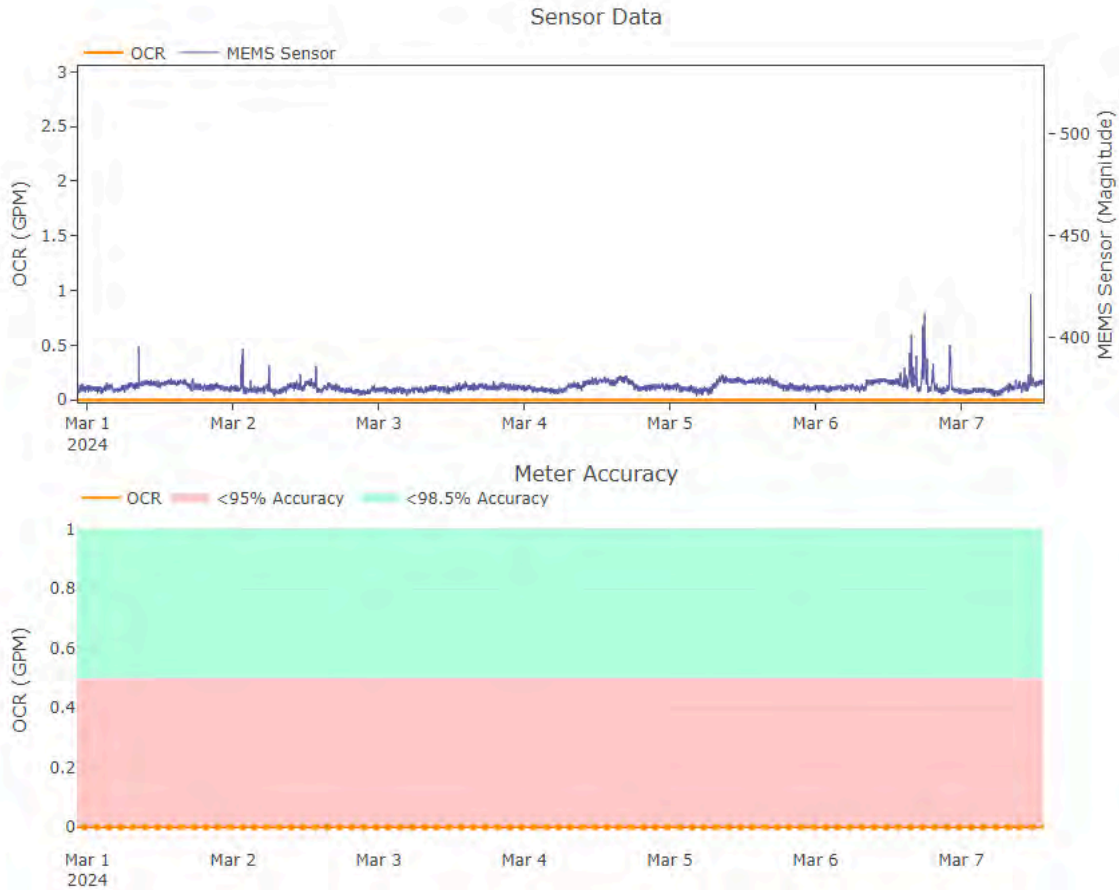

Figure 46 - Post repair 'No Flow - No Problem Found' meter
- This compound meter (Figure 46), was previously identified as having an oversized meter error. Fullerton staff have completely replaced the Sensus meter with a new Sensus meter, and Olea’s MHA technology has identified this meter as ‘No Problem Found due to No Flow’.